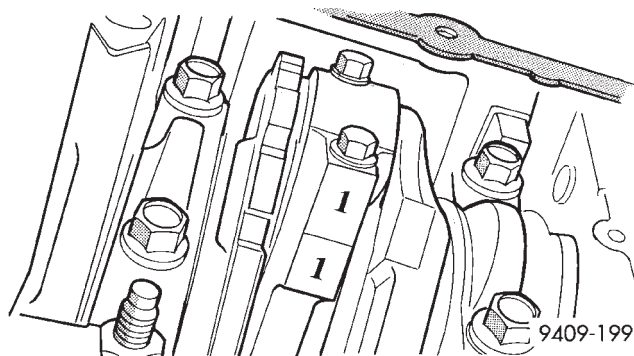

Fig. 76 Identify Connecting Rod to Cylinder
- (2) Remove oil pan. Scribe the cylinder number on the side of the rod and cap (Fig. 76) for identification.